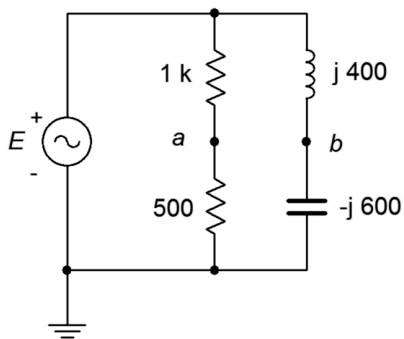

Figure 4.19
31. For the bridge circuit of Figure 4.19, determine v_{ab} . The source is 50 volts peak.
39. Given the circuit of Figure 4.19, determine a new value for the inductor such that the magnitude of v_b equals the magnitude of v_a . Assume that the source frequency is 20 kHz.
43. Given the circuit of Figure 4.19, is it possible to change the values of the two resistors such that the phase angle of v_a is the same as that of v_b ? If so, what are the new values, and if not, explain why it is not possible.